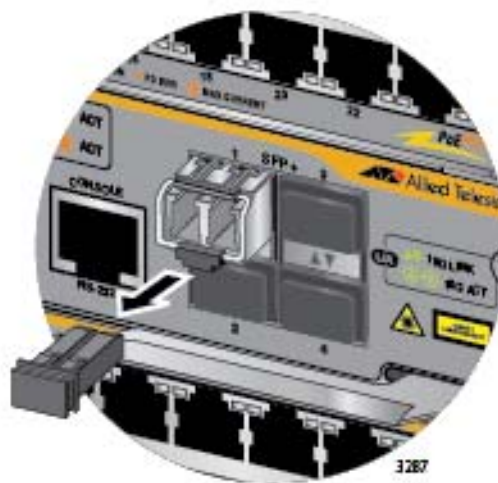

Figure 101. Removing the Dust Cover from an SFP+ Transceiver in the AT-SBx81CFC960 Controller Fabric Card
4. Remove the protective cover from the SFP+ transceiver, as shown in Figure 101.